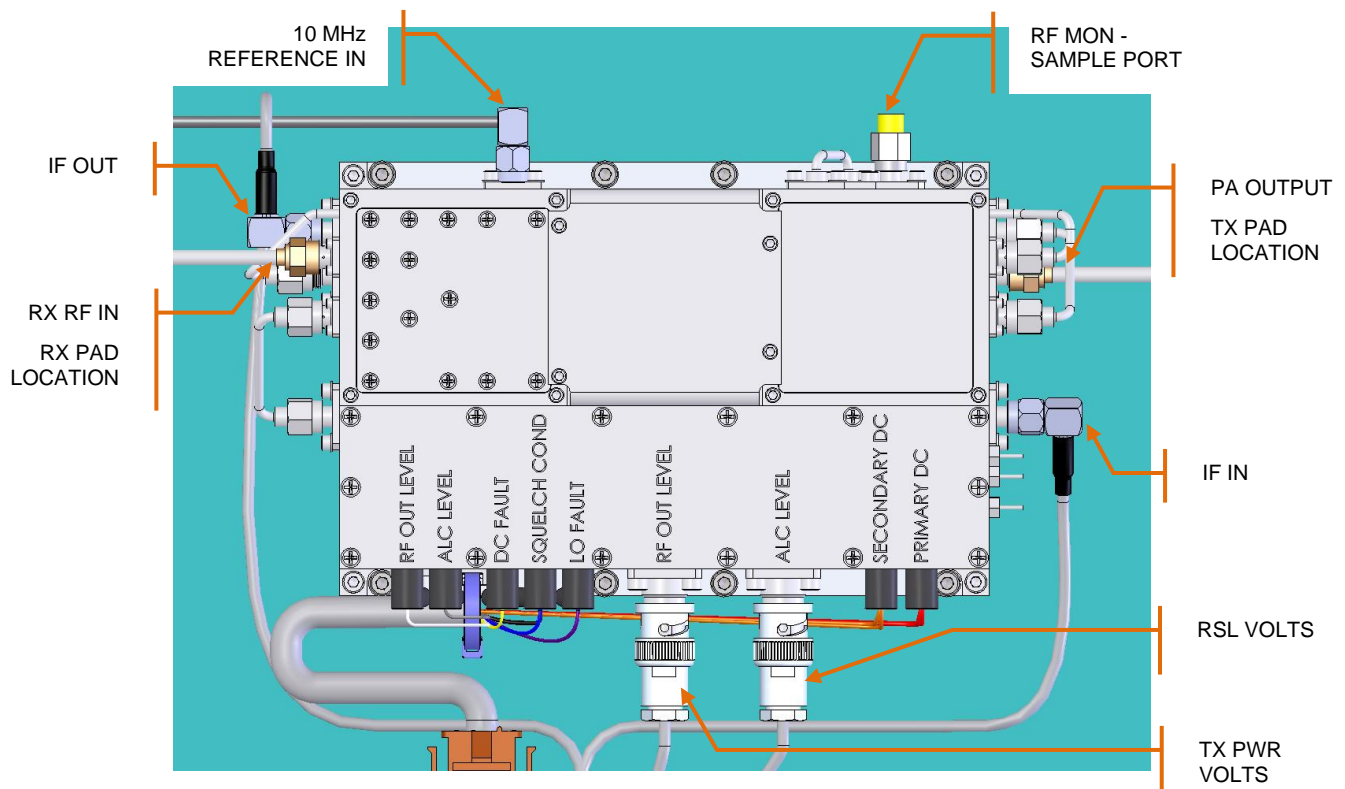

Figure 25 Heterodyne RF Module Connector Ports
- 6.2. Remove the SMA Termination and then connect the power meter to the RF MON – SAMPLE PORT on the side of Power Amplifier. This is an SMA-female connector. A right-angle adapter with a between series (e.g. SMA to N) adapter (if needed) to fit the power meter sensor are needed to access the test port. See Figure 25.
6.5. Add the Cal Loss marked near the RF MON (see Figure 25) to the power meter reading, the result is the Power Amplifier Output Power.